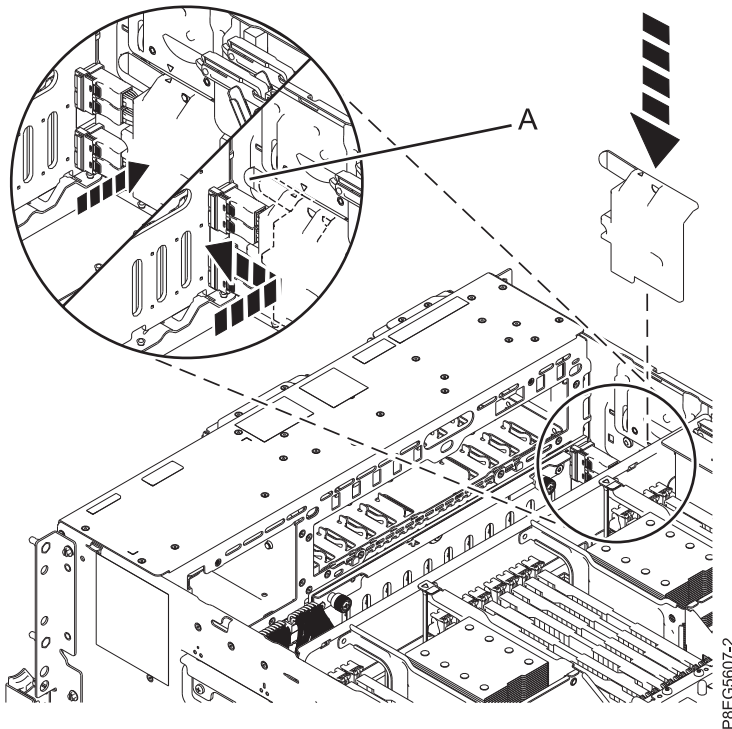

Figure 11. Replacing the SAS cable cover
7. Replace the SAS cable cover. Place the cover slots onto the pins on the side of the chassis. The triangle symbol on the SAS cable cover lines up with the triangle symbol on the side of the chassis when the cover slots and pins are aligned correctly. Push the cover forward toward the front of the system until the handle (A) latches in place. See Figure 11.